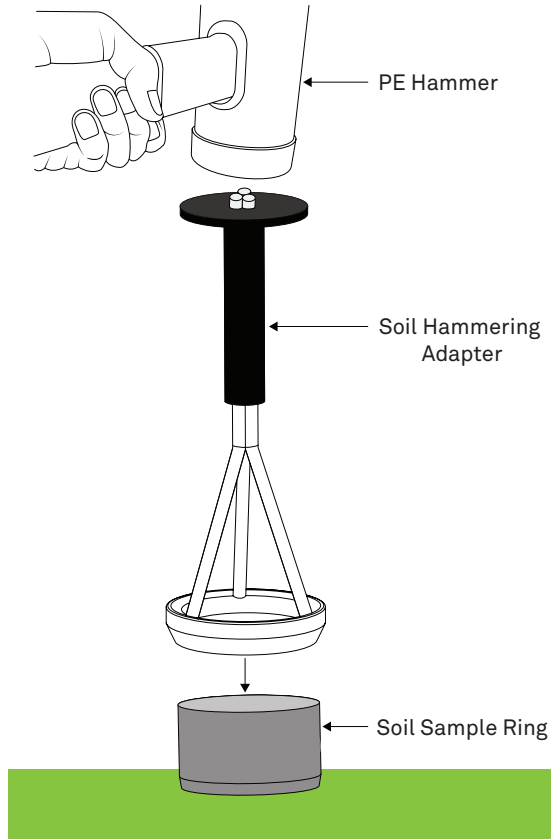

Figure 4 Pound METER hammering adapter with PE hammer to drive soil sample ring into ground
- Pound on the METER hammering adapter using the recommended PE hammer until the sample ring is completely buried in the soil (Figure 4).